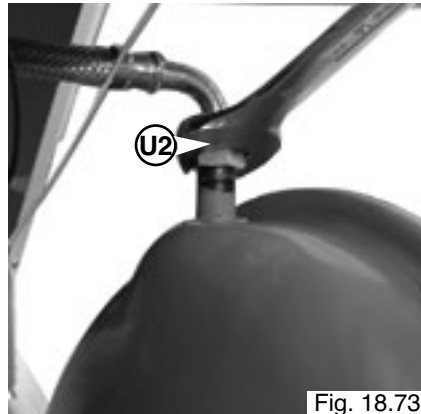

Fig. 18.73
3. Pull the expansion vessel toward you and remove the nut "U2" with a No.17 spanner (see Fig. 18.73);